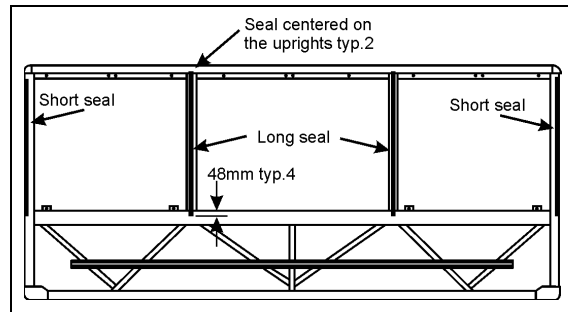

FIGURE 54 : FACE WINDOW - RUBBER SEAL INSTALLATION
2. If necessary, install rubber seals as per FIGURE 54. Press the seal against the structure with a roller;
1. If necessary, install the rubber seals as per FIGURE 54. Press the seal against the structure with a roller;